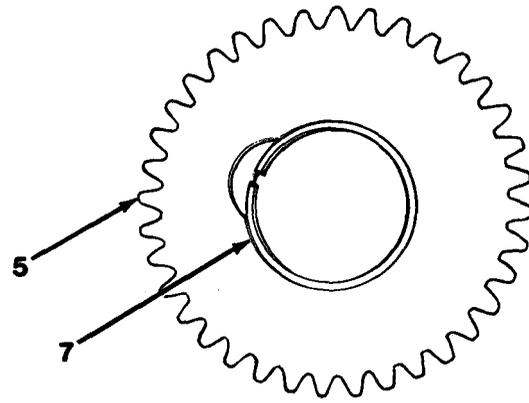

Figure 11-15
23. Install four clutch separator plates (11), clutch plates (10) and clutch plate retainer (9).
24. Install snap ring (8),
25. Install snap ring (7) into high gear welded assembly (5, Figure 11-15).